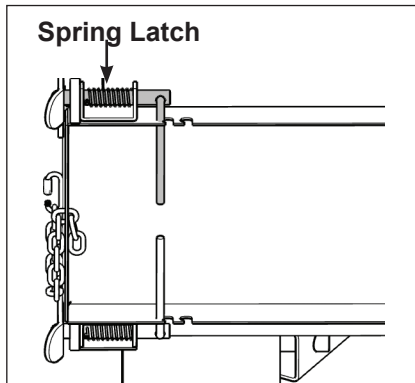

Figure 2a - Top left spring latch in "locked" position.
2. Lift spring-pin handles and continue pulling inward secure the handles in the "unlock" position (see **Figure 2a-b**).